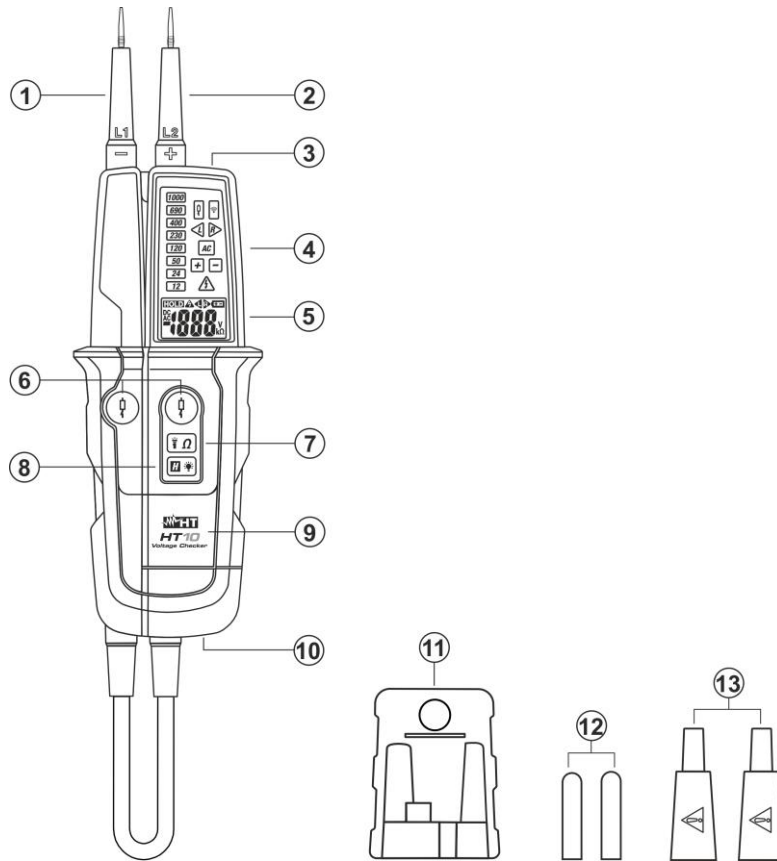
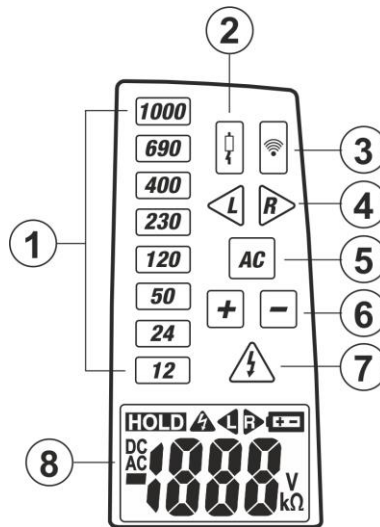

Fig. 1: Instruments description
Fig. 2: Description of warning LEDs
4. **Press the two switches (see Fig. 1 - part 6) simultaneously. The applied voltage is displayed both through red LEDs switching on and on the display. AC symbol is displayed. The LED for low impedance test (see Fig. 2 – part 2) switches on**